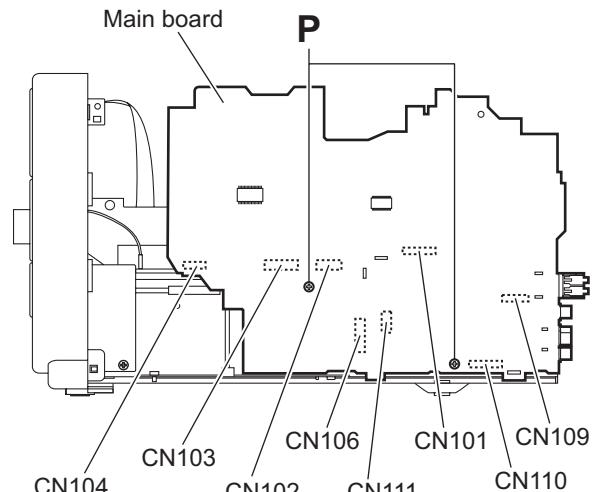

Fig.12
(See Fig.12)
- (1) From the right side of the main body, remove the two screws **P** attaching the main board. (See Fig.12.)
- (2) Disconnect the connectors (CN101 to CN104, CN106 and CN110) on the main board toward this side. (See Fig.12.)
- (3) From the forward side of the main board, disconnect the wires from the connectors (CN109 and CN111). (See Fig.12.)